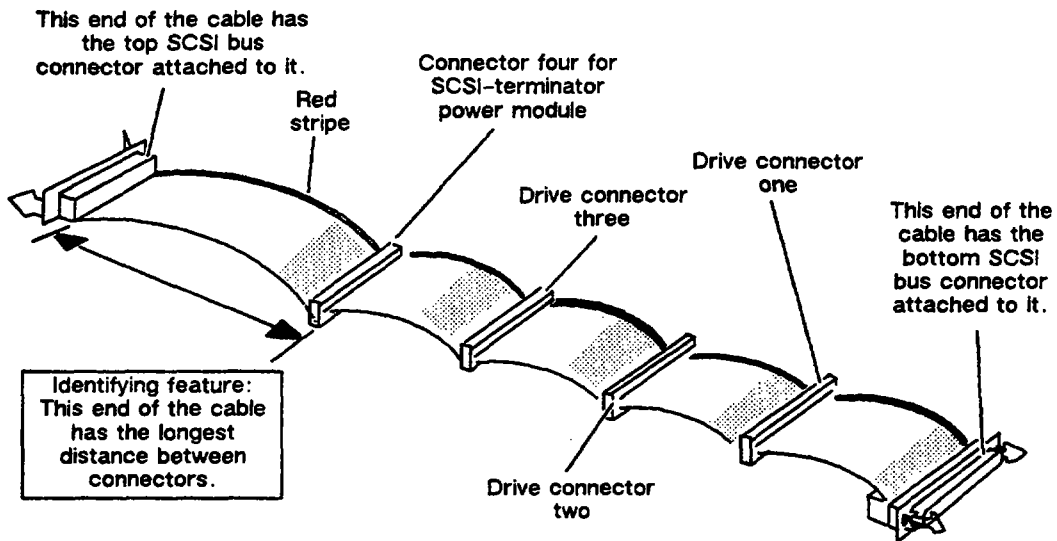
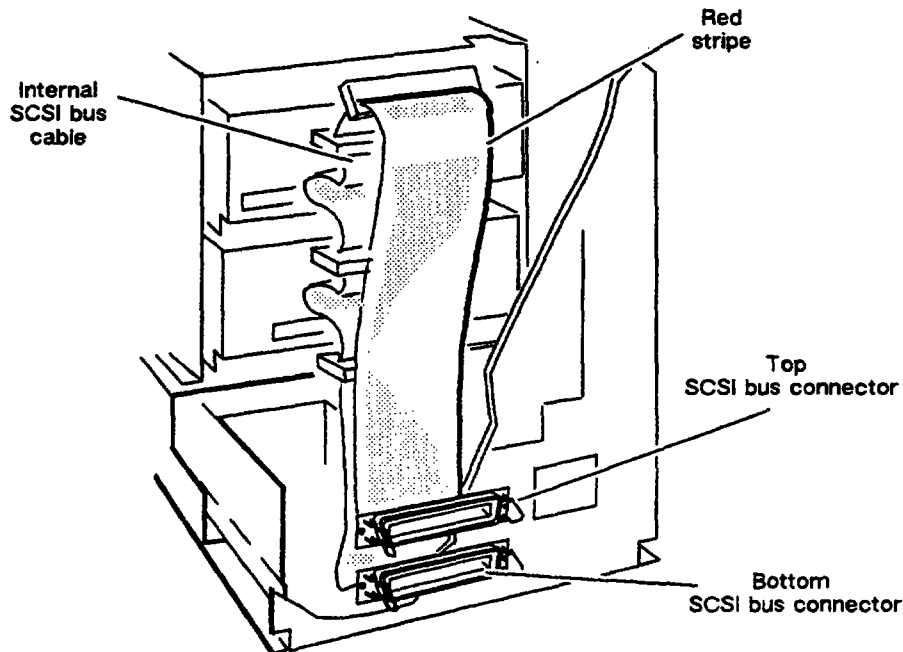

Figure 4-10 Connectors on the Internal SCSI Bus Cable
Figure 4-11 Internal SCSI Bus Cable
7. Figure 4-10 identifies the connectors on the internal SCSI bus cables. From inside the subsystem, install the bottom SCSI bus connector of the replacement cable in the bottom-connector opening, as shown in Figure 4-11. Reattach the connector with the two Phillips screws and washers.
8. From inside the subsystem, install the top SCSI bus connector of the replacement cable into the top-connector opening, as shown in Figure 4-11. Reattach the connector with the two Phillips screws and washers.
9. Plug each drive connector into the proper drive: plug drive-connector one into the bottom drive, drive-connector two into the next drive from the bottom, and drive-connector three into the remaining drive. If your system has fewer than three drives, simply tuck any unused connectors out of the way. Refer to the cable drawing in Figure 4-10 to identify the drive connectors. Refer to the drive